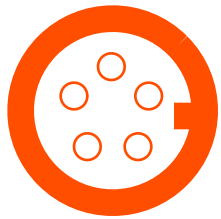

Fig 1
- Match the connector, push in and tighten the ring(Fig 1).